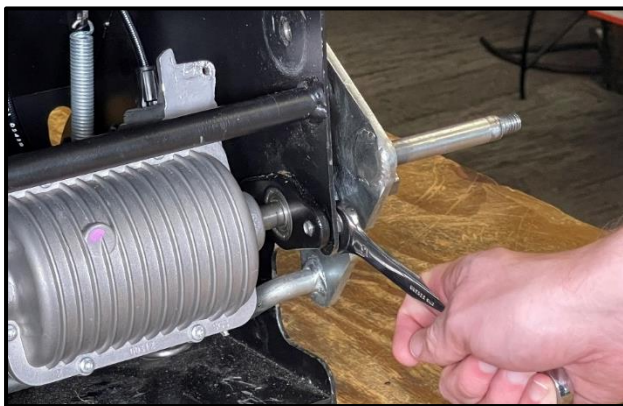

Figure 6
6. Remove the two Axle mounting bolts from each side using an Open-Ended 1/2" Wrench (Figure 6).